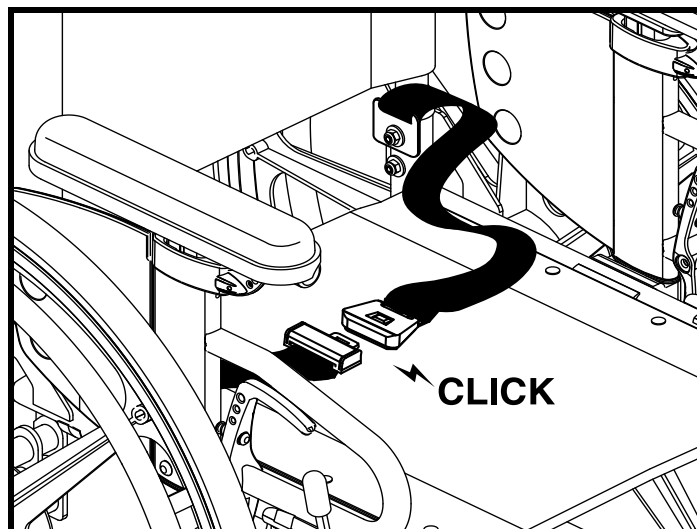

Figure 36. Positioning Belt Adjustment
1. Once seated, insert the metal tab on one side of the belt into the plastic housing on the opposite side until you hear a click. See figure 36.